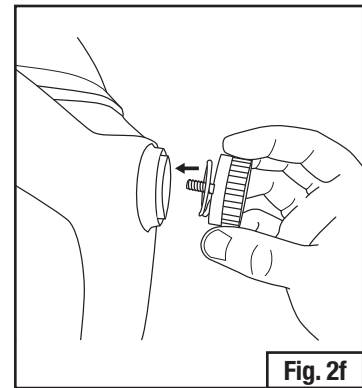

Fig. 2f
- Hold the faceshield and headgear in place, and fit the welding shield over the cam and pivot posts. Secure each side of the welding shield by screwing a spring loaded knob into a cam and pivot post on each side of the welding shield (Fig. 2f).